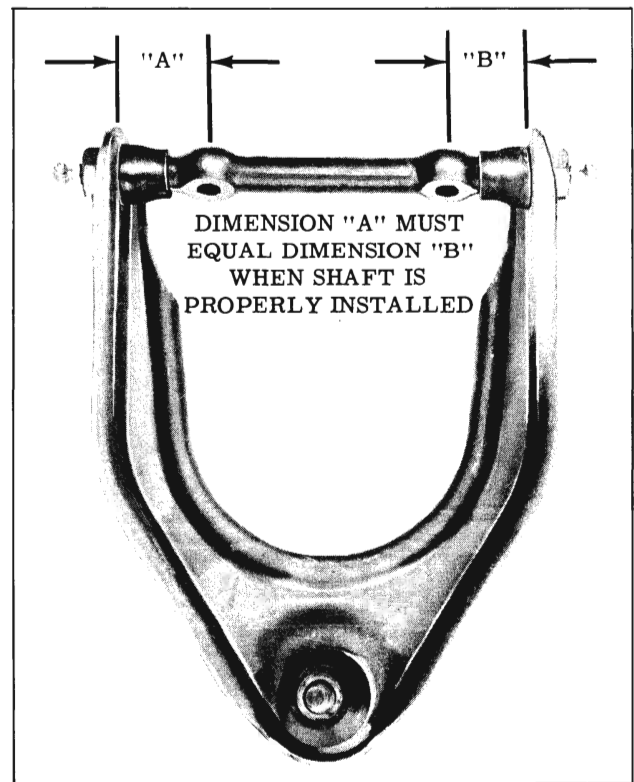

Fig. 5-113 Upper Control Arm Shaft
If arm and shaft are being replaced new as an assembly, center shaft in arm as shown in Fig. 5-113 before attaching to cross bar.
3. Center shaft in arm. (Fig. 5-113)